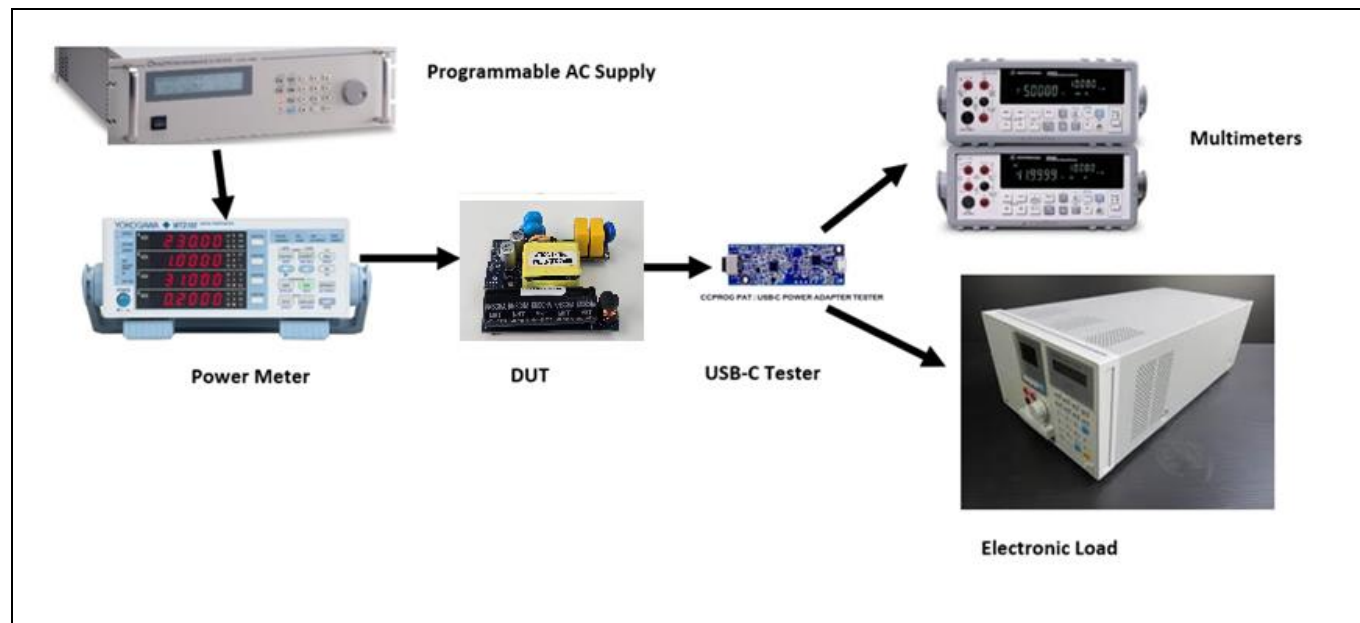

Figure 6 Test equipment connected to the standalone REF_65W_HFZVS_LP_PAG2 board
Figure 6 shows the test setup to measure the electrical data of the DUT. The following is the optimal setup to measure the efficiency:
1. Connect the 65 W solution board to a power meter AC terminal that is already connected to the programmable AC supply as shown in Figure 6
3. Connect the electronic load at the PAT tester load terminal as shown in Figure 6